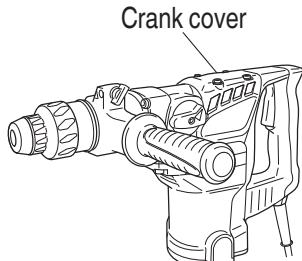

Fig. 19
- (1) Remove the crank cover and wipe off the grease inside.
**(Fig. 19)**
- (2) Supply 60g of Hitachi Electric Hammer Grease A